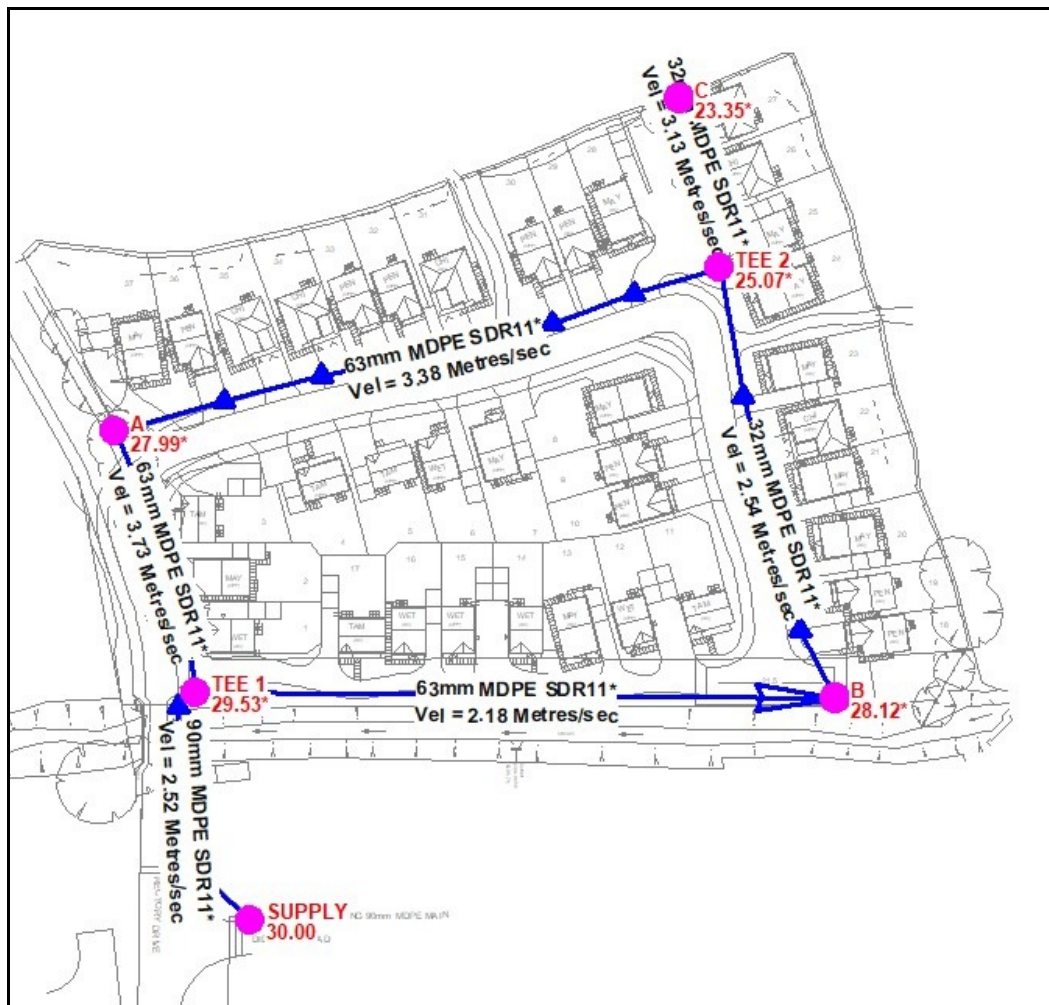

Figure 6
The pressure values, flow directions, and pipe sizes should be similar to those shown in Figure 6.
- As a result of the “hand-drawn” pipe segments, each example model is created slightly different. Therefore, the results will be slightly different for each model. The results, however, should be similar to those shown in Figure 6.